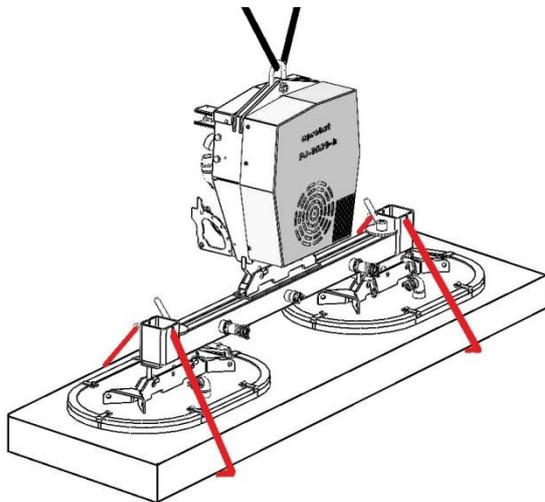

Fig. 1
- The safety chains must fit tightly to the load, in that way that the load is held in case of a vacuum failure (Fig. 1)